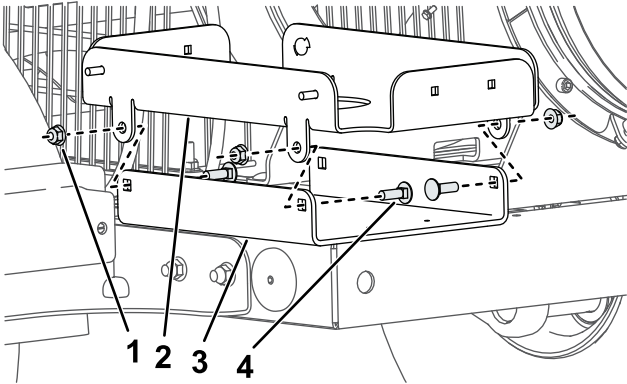

Figure 2
1. Remove the existing fuel-tank mount and install the new 10 gallon tank mount using 4 carriage bolts (5/16 inch) and 4 flange nuts (5/16 inch) through the holes in the tray as shown in Figure 2.